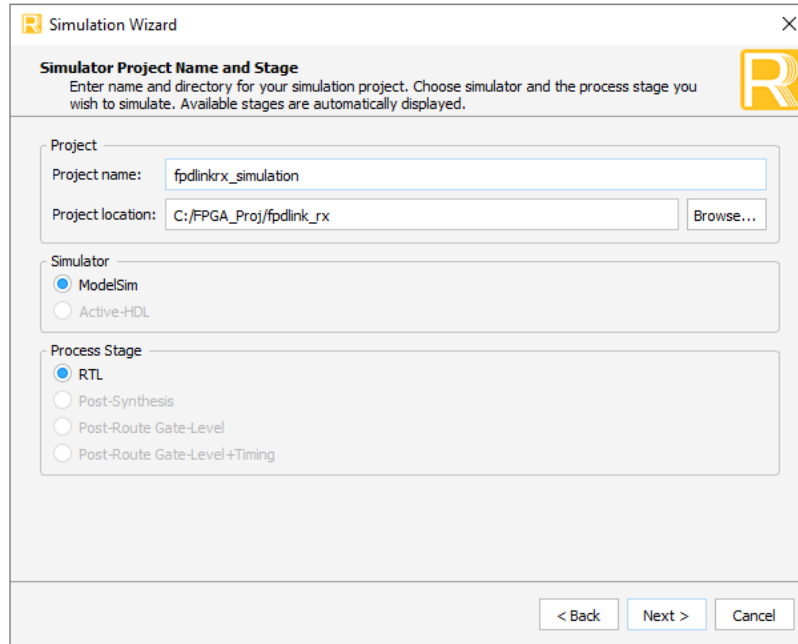

Figure 3.4. Simulation Wizard
3. Click the  button located on the **Toolbar** to initiate the **Simulation Wizard** shown in Figure 3.4.